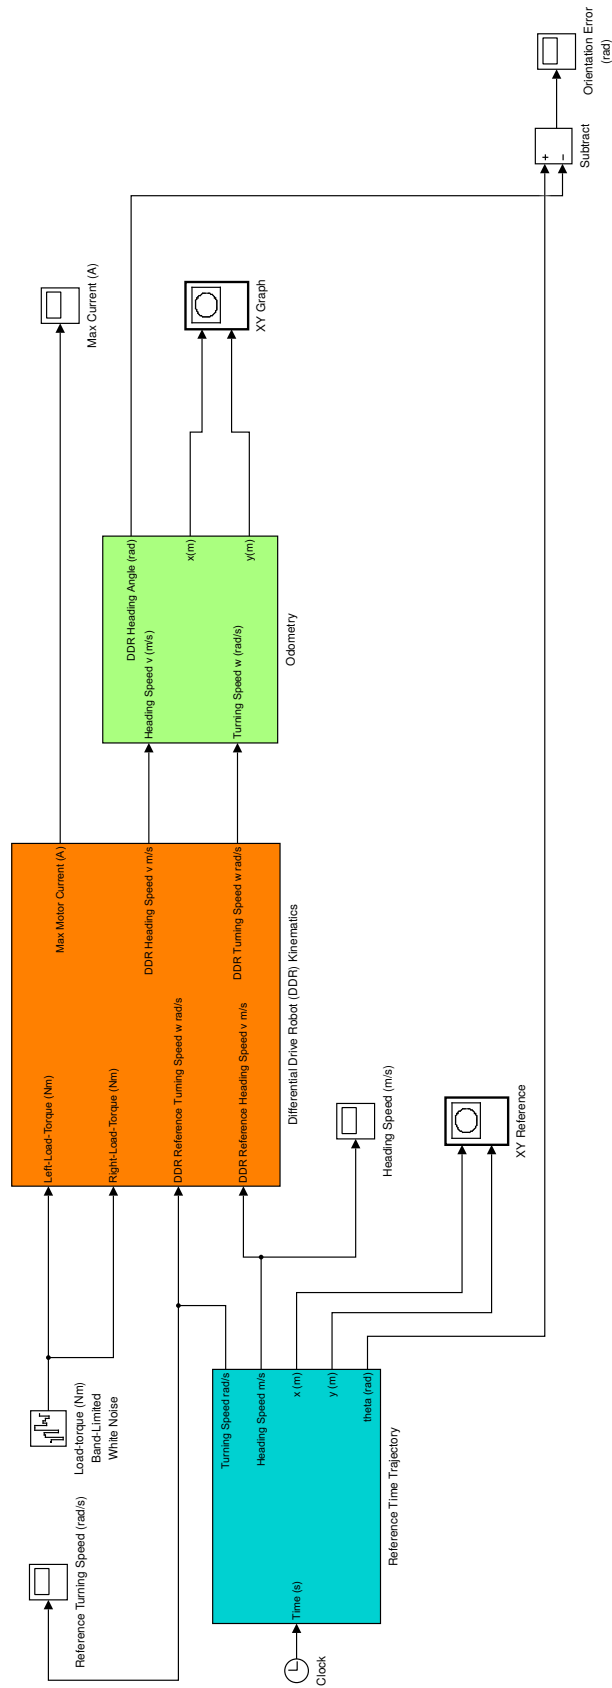

Figure 3.1: The overview of the differential-drive mobile robot. The individual subsystems/blocks are shown in the following figures.
**Task 3.1.** *Implement the overall system shown in Fig. 3.1: Its individual blocks are shown in detail in Figs. 3.2, 3.3, and 3.4. The “Reference Time Trajectory” subsystem generates the reference heading and turning speeds from GIMS-I/homework-10 problem. The robot then tries to follow this using its motor speed-controllers despite the disturbance torque-load acting on the wheels. The plot of the XY motion of the robot and the maximum current flowing through either of its motors is available in the scopes.*
2. Modify the model in Fig. 3.1 (remove the reference time-trajectory block) and use only proportional control on the angular error to compute the DDR reference turning-speed. Do you notice any overshoots? Choose  $K_P$  such that: